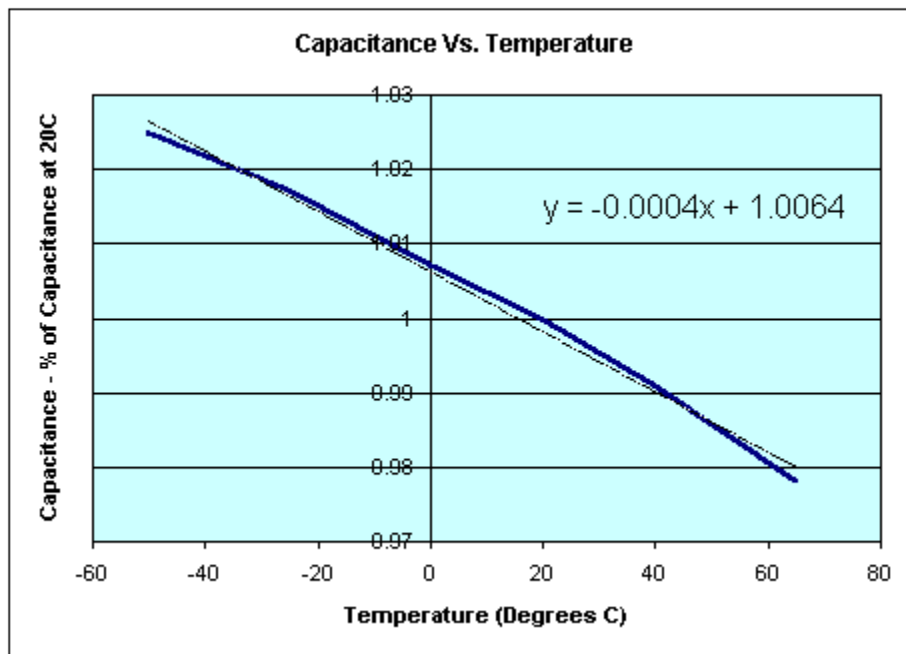

Figure 2 - Capacitance Vs. Temperature for Film-Foil Capacitors
- Capacitance over the capacitor operating temperature range can vary on the order of +/-2% (See Figure 2).